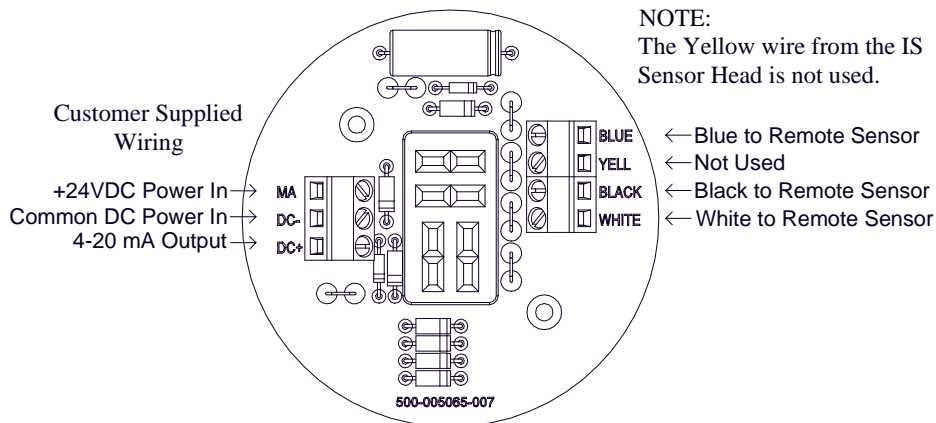

Figure 9 Sensor wiring
- b. Remove the junction box cover and un-plug the control circuit by grasping the two thumb screws and pulling outward. Observing correct polarity, connect the loop power field wiring to the terminals labeled “+” and “-” 4-20 mA. (Figure 9) Reinstall cover.